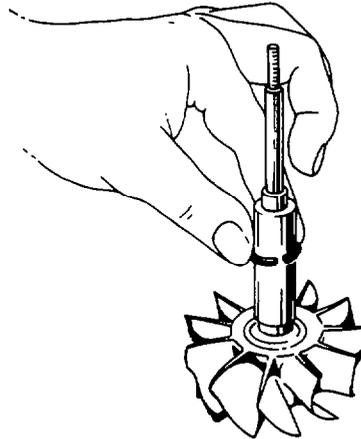

Fig. 155 — Installing Piston Ring
- k. Use the appropriate sleeve to fit the piston ring (item 9) to the shaft (see fig. 155); ensure that the piston ring is installed in the square bottomed groove and not in the rounded oil slinger groove.